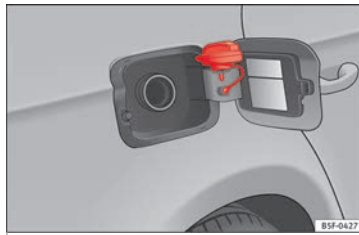

Fig. 58 Fuel tank flap with tank cap attached.
- Place it in the space on the hinge of the open flap » **Fig. 58**.